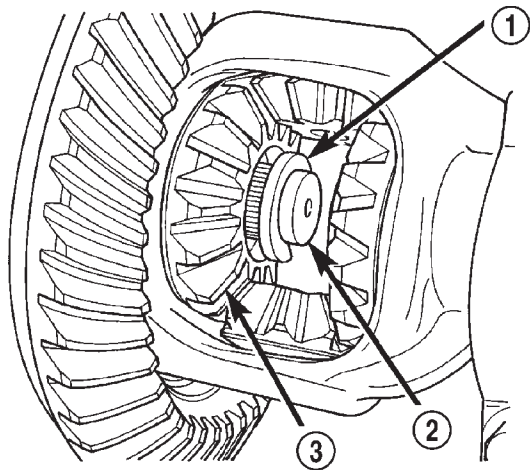

Fig. 9 Axle Shaft C-Lock
- (7) Push axle shaft inward and remove axle shaft C-lock from the axle shaft (Fig. 9).
- (8) Remove axle shaft. Use care to prevent damage to axle shaft bearing and seal, which will remain in axle tube.
- (9) Inspect axle shaft seal for leakage or damage.
- (10) Inspect roller bearing contact surface on axle shaft for signs of brinelling, galling and pitting. If any of these conditions exist, the axle shaft and/or bearing and seal must be replaced.